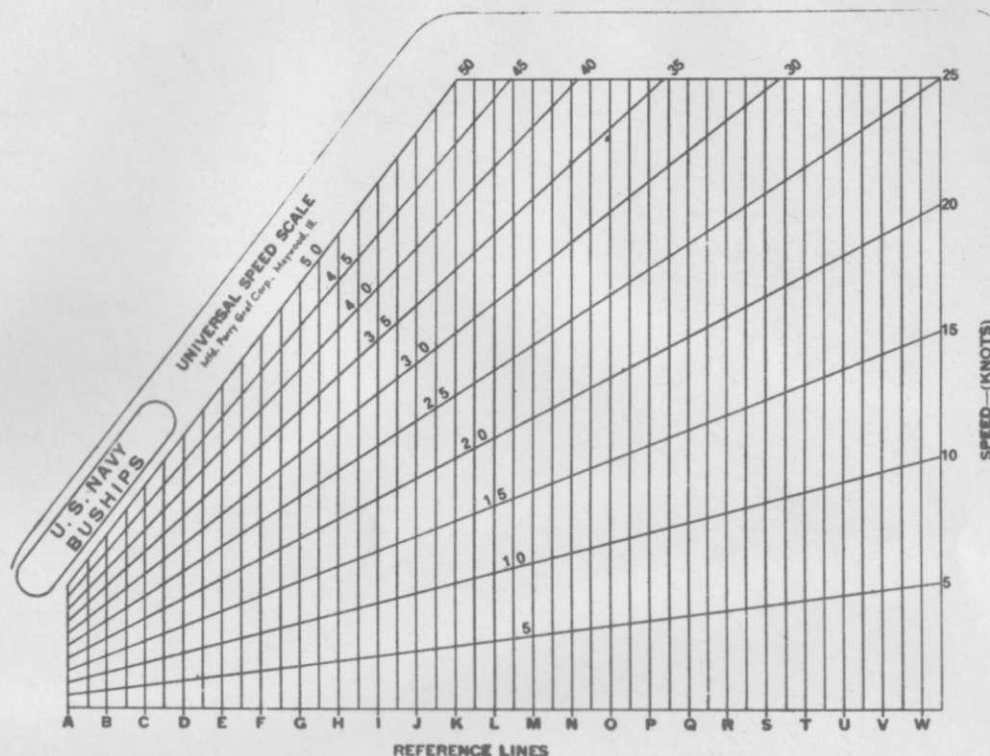

Figure 20
- (c) Universal Speed Scales (See Figure 20): They compare corresponding portions of own ship's track and the track whose speed is to be determined. Any time interval for which both own ship's travel and other ship's travel are available is used. The length of own ship's travel is first picked off the plot with a pair of dividers and the setting moved along the Universal Speed Scale